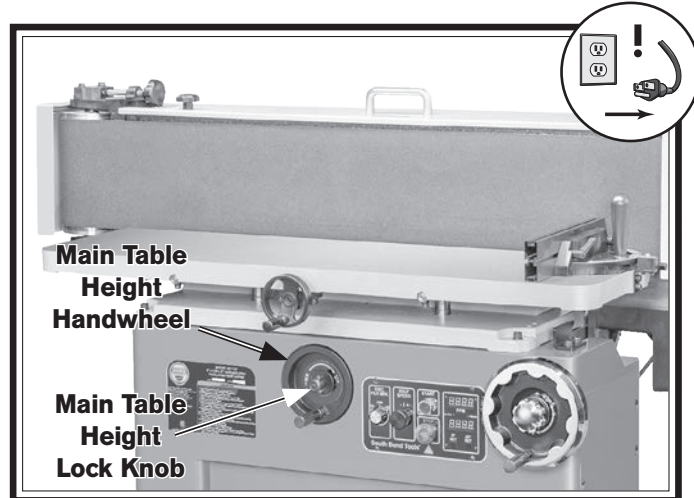

Figure 37. Main table height adjustment controls.
2. Loosen main table height lock knob (see Figure 37).
3. Adjust main table height handwheel (see Figure 37) as desired.